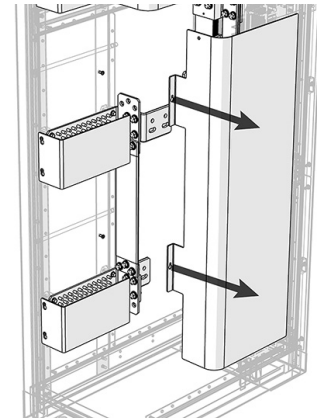

Figure 5. Input Bus Plastic Safety Shields
- Step 1. Remove the input bus plastic safety covers (see Figure 5 on Page 9).
- Step 1.** Remove the input bus plastic safety covers (see Figure 5 on Page 9).
- Step 1.** Remove the input bus plastic safety covers (see Figure 5 on Page 5).